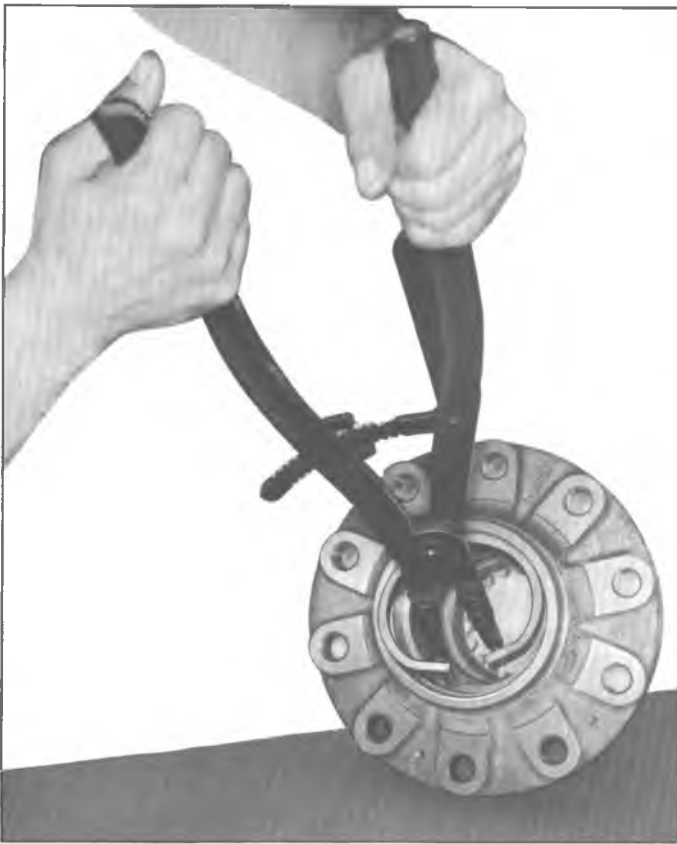

Fig. 73—Removing Hub Outer Bearing Retainer Ring
3. Use J-22380, as shown in figure 73, to remove outer bearing retainer ring.
4. Withdraw cup installer, then install retainer ring, using J-22380 as shown in figure 73. Press the cup into contact with the retainer ring as shown in figure 74.